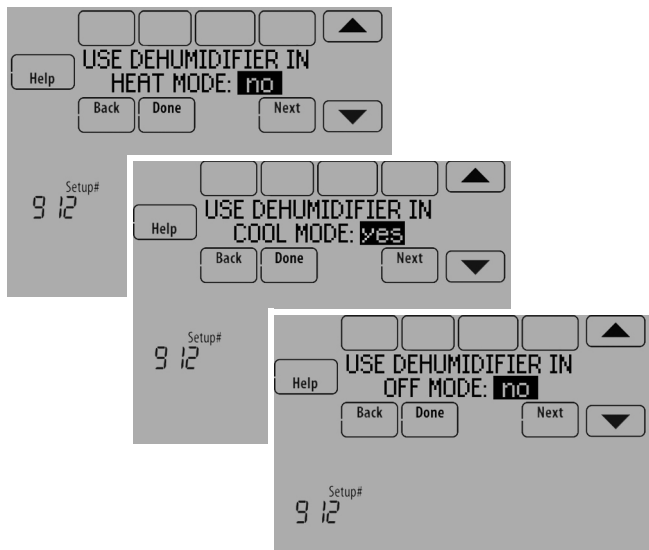

Fig. 220.
- Select the system mode(s) to allow dehumidification. See Fig. 220.